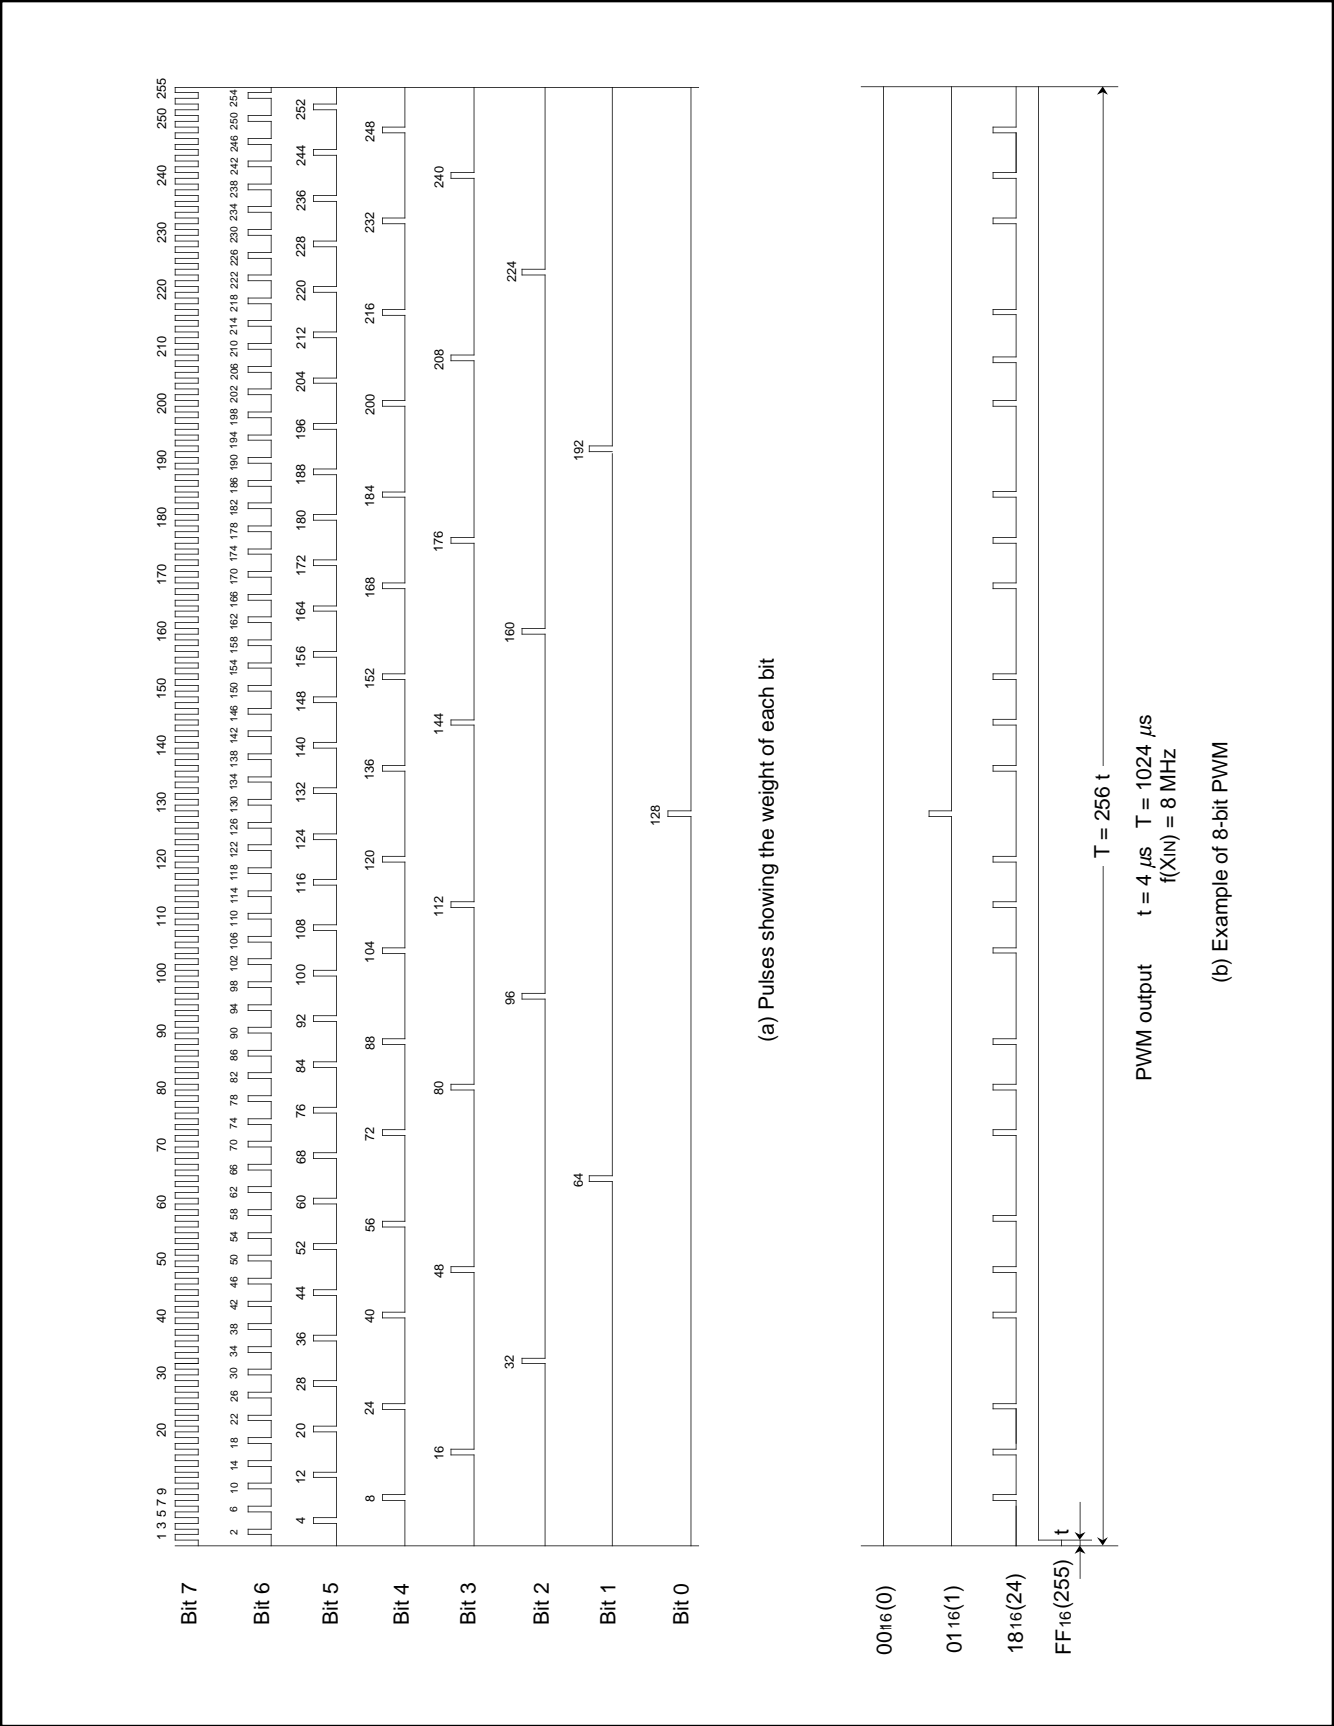

Fig. 23. 8-bit PWM Timing
Figure 23 shows the 8-bit PWM timing. One cycle (T) is composed of  $256\ (2^8)$  segments. The 8 kinds of pulses, relative to the weight of each bit (bits 0 to 7), are output inside the circuit during 1 cycle. Refer to Figure 23 (a). The 8-bit PWM outputs waveform performed a OR operation of pulses corresponding to the contents of bits 0 to 7 of the 8-bit PWM register. Several examples are shown in Figure 23 (b).  $256$  kinds of output (HIGH area:  $0/256$  to  $255/256$ ) are selected by changing the contents of the PWM register. A length of entirely HIGH cannot be output, i.e.  $256/256$ .